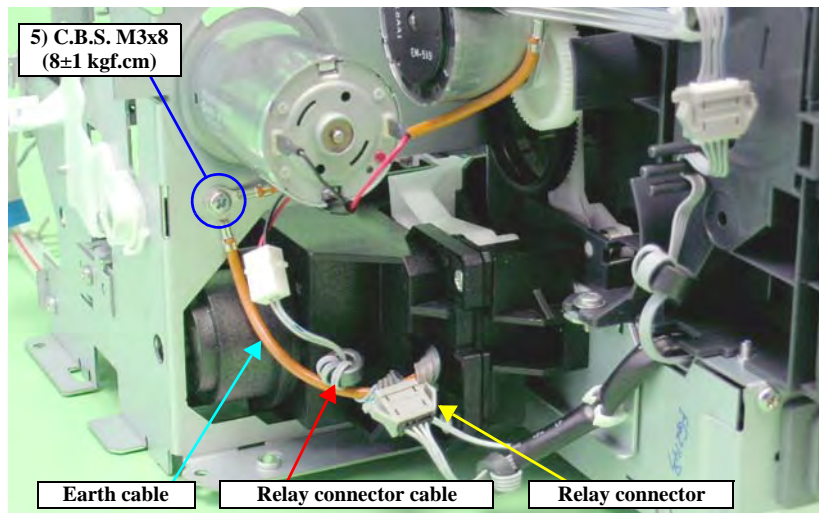

Figure 4-119. Disconnecting the Pump Motor Connector
- Referring to Figure 4-119, correctly route the Relay connector cable.